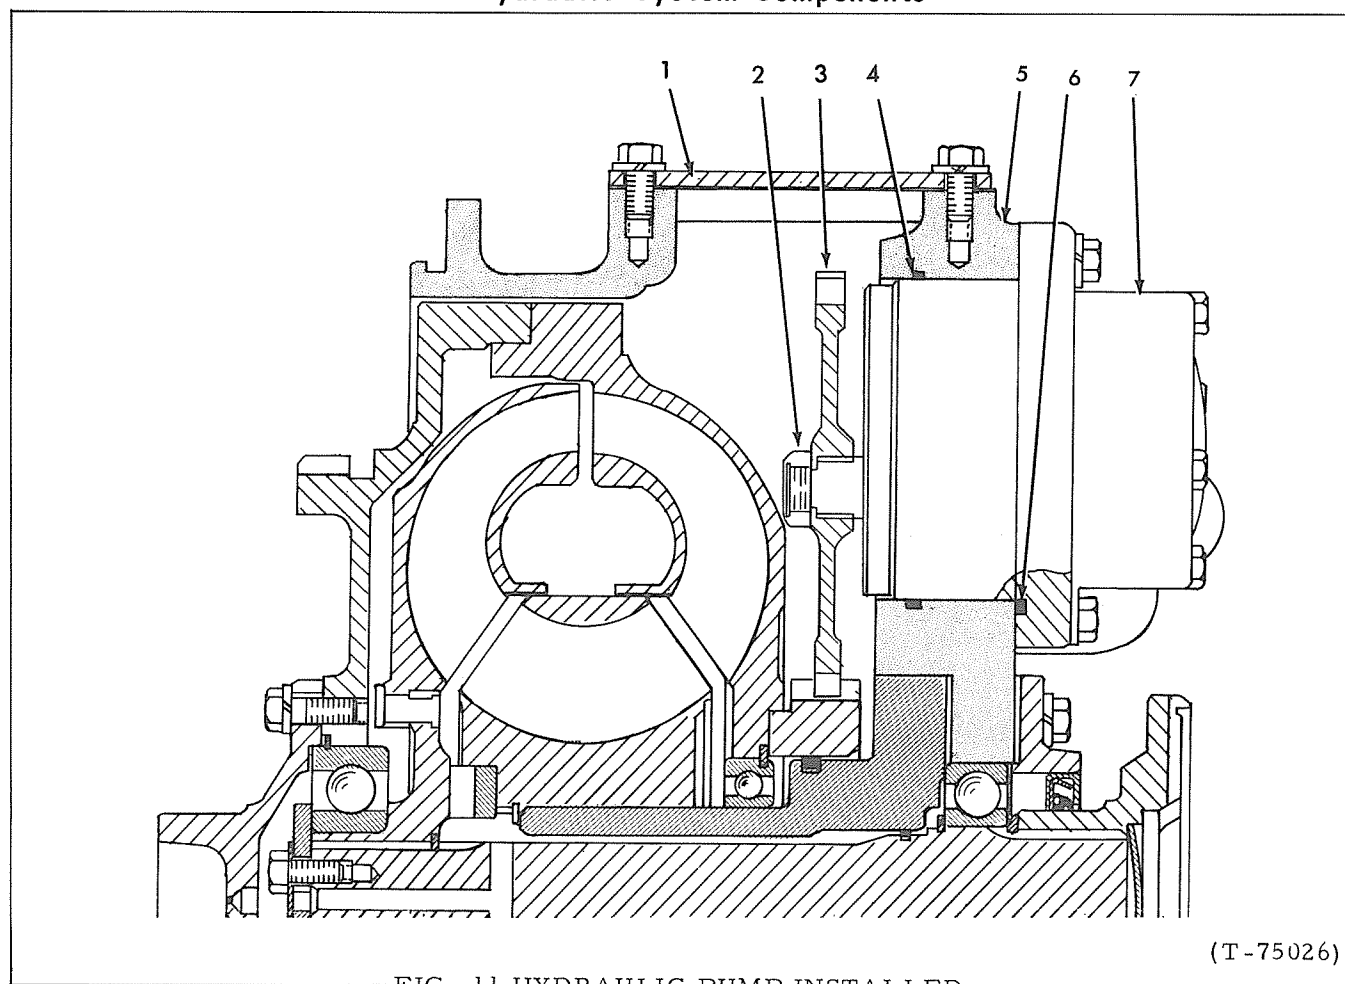

FIG. 11 HYDRAULIC PUMP INSTALLED
- b. Remove pump access cover, Fig. 11 (1). Remove pump drive gear retaining nut (2) and pump drive gear (3); discard nut. Pump will have to be partially removed before gear can be removed.
- b. Install O-rings, Fig. 11 (4) (6) in groove in pump bore in housing and around pump mounting flange; do not twist or roll O-rings into position. Lubricate O-rings liberally and start pump into its bore; install pump drive gear, Fig. 11 (3) with long hub toward pump. Use attaching capscrews to pull pump into its bore; torque capscrews to 26 to 32 lbs. ft. (3.59-4.42 kg-m) after pump is properly positioned.
- c. Install new gear retaining nut, Fig. 11 (2); torque to 45 lbs. ft. (6.22 kg-m).
- d. Install pump access cover, Fig. 11 (1).